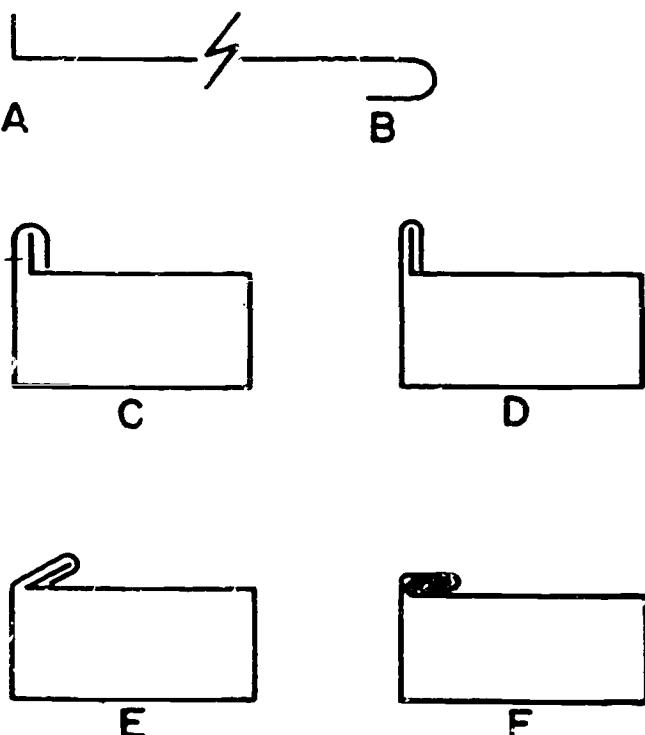

Figure 2-7. Making a corner double seam for articles with square corners.
**Corner double seam.** A corner double seam can be partially made on a bar folder or cornice brake, depending on the length of the component. For example, suppose you must make a 1/4-inch double seam on a 24-gage square duct. Before the duct can be formed into a square shape, you must form the two parts of the seam, which are shown in steps A and B of figure 2-7. If the duct joints are 20 inches or less in length, you can make the bends for the double seam on a bar folder by setting the depth gage bar for 1/4 inch,
bending one edge 90°, and bending the opposite edge 180°, as shown in steps A and B. Make these bends first because they are difficult to make after the joint is formed into a square. To form the joint into a square, use the cornice brake to bend the metal 90° along each of the three element (brake) lines. After you have made these bends, join the edges as shown in step C of figure 2-7. The next step is setting down the seam as shown in D.
You can do this setting-down operation with a setting hammer or with the cornice brake. If you use a setting hammer, you must have a backing plate or suitable bench stake. In step E of the illustration, the corner double seam begins to take shape. Bend the seam over with a mallet on the square end of a solid mandrel stake. When completely set down, the corner double seam will be like the one shown in step F of figure 2-7. As with other lock seams, indentations made with a center punch will keep the seam from slipping.